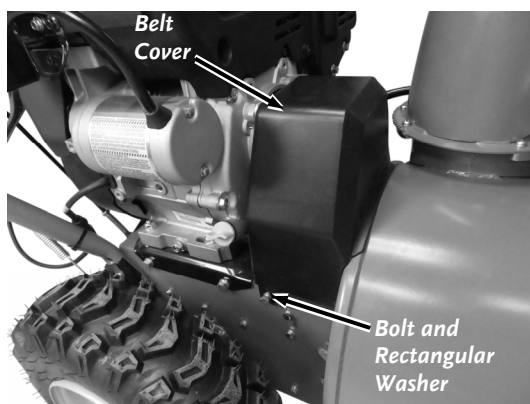

Figure 59
- Remove the two Bolts and rectangular Washers from the Belt Cover using a 10mm Wrench and remove the Belt Cover (**Figure 59**).
16. Install the Belt Cover (**Figure 59**).